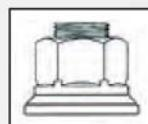

Figure 1
1. Find the wheel # at the location shown on Figure 1 to the right. Wheel #'s are usually used for larger size wheels.
2. Find the wheel diameter at the location shown on Figure 1 to the right.